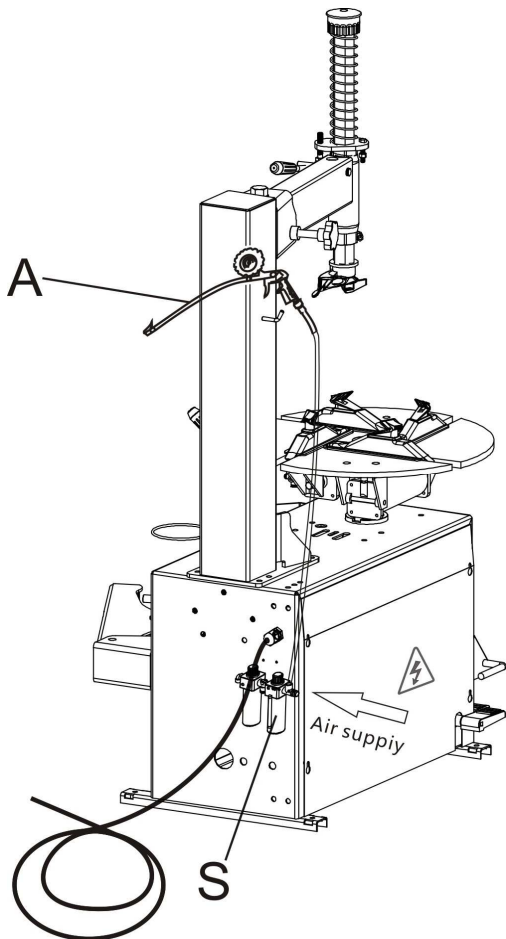

Fig.8
- Air connection: Connect the inflation gun A to the coupling located to the up of the air filter S; put inflating gun to the hook, on the column(as Fig.8) ; Connect the compressed air supply to the coupling located between the lubricator and the air filter (as Fig.8).